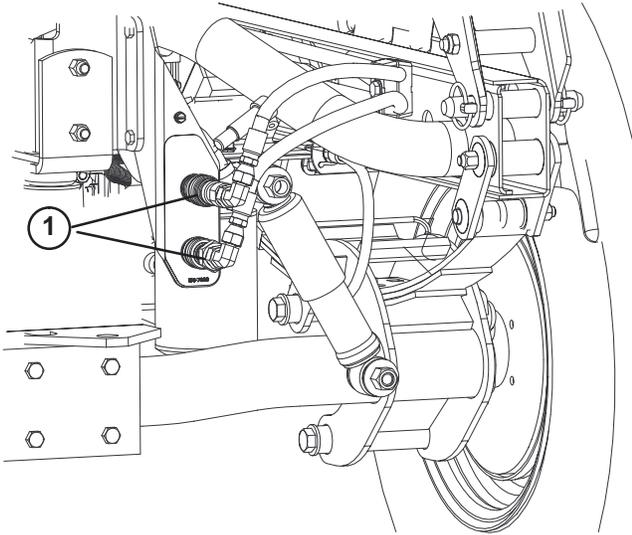

Figure 13
2. On vehicles with serial numbers 240000001 & up, disconnect the two lift cylinder hoses from the hoses secured to the coupler bracket (Fig. 13). Insert caps into cylinder hose quick couplers.